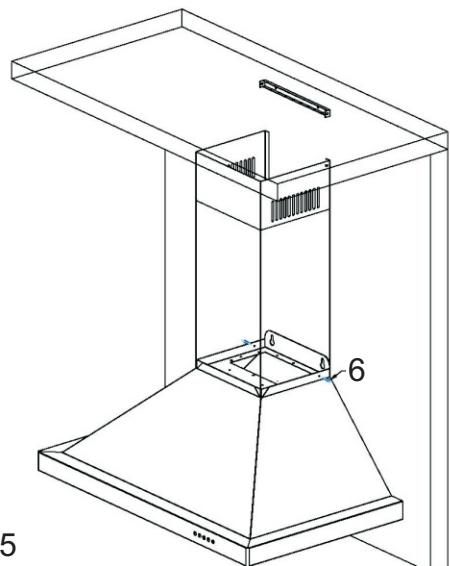

fig. 5
**Step 6:** Install the 2 part chimneys on top of the hood by sliding the inside section up until the vertical vent slots are visible. Then put both pieces on top of the hood and secure the lower portion with the provided screw at the bottom. fig. 5